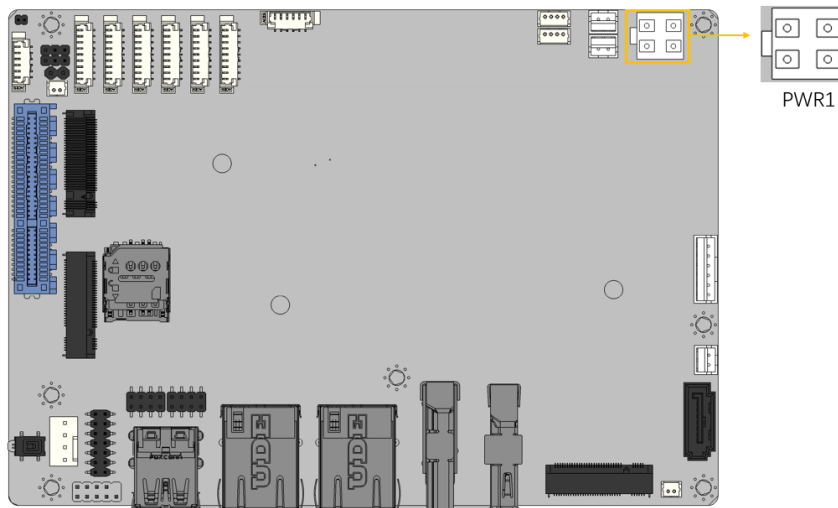

Figure 3-7: ATX 12V Power Connector Location
- CN Location:** See **Figure 3-7**